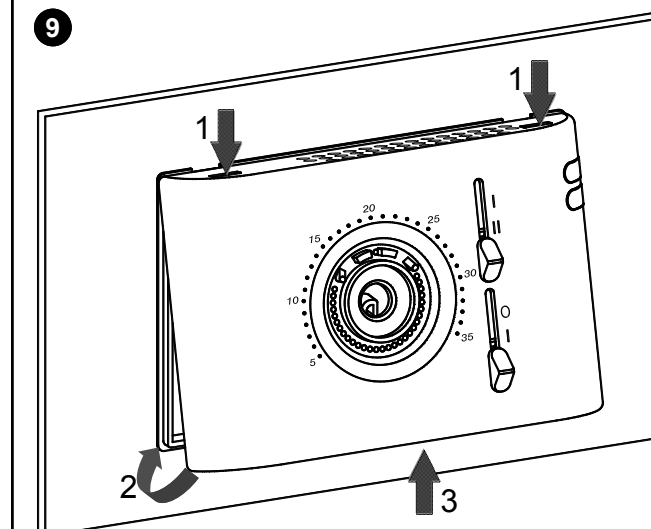

Fig. 10 - Abb. 10
- Turn the cover making sure the sliders coincide with the relative switches, push the plastic tab on the lower part of the base inwardly (see the arrow in Fig. 10) and press it so that the plastic fixing tab inside the special hole, at the bottom of the cover, clicks. Check the sliders' correct stroke.
- Vor dem nach unten führen prüfen Sie die Stellung der Wahlschalter (siehe Abb. 10).